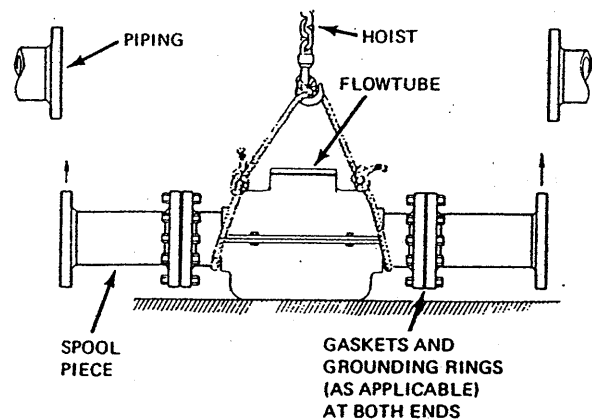

Figure 16.
- a. Refer to Figure 16. Position gaskets and grounding rings (as applicable) adjacent to flowtube flanges. (For details of grounding rings, see "Flowtube Earthing" section.)
- c. Hoist complete assembly into position as shown in Figure 16. Align flanges and bolt into place.